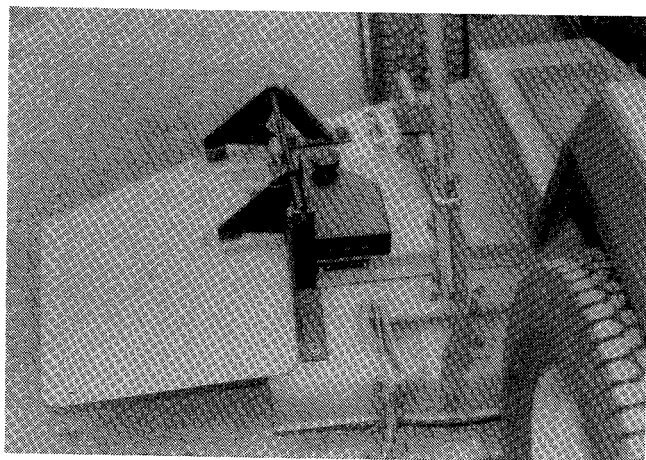
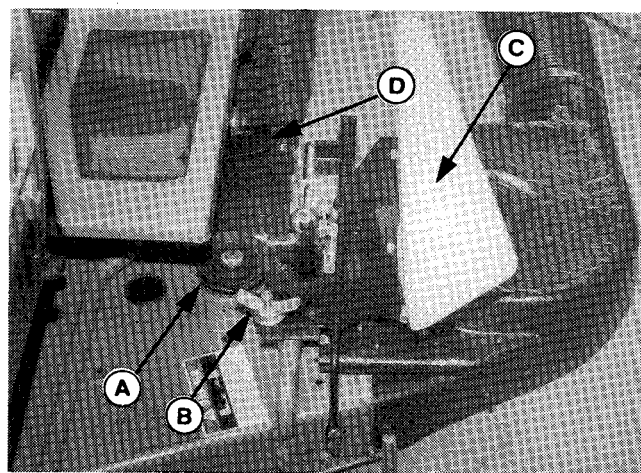

Figure 20.
Figure 21.
The deflector is spring loaded. When removing blower, hold deflector up. Then allow deflector to go down into normal operating position (figure 20).
Unhook the cart from the tractor by removing two pins and clips. To remove the blower, remove belt from pulley (A, figure 21), then close cover (D) and tighten knob. Loosen wing nut (B) and, while holding deflector (C) up, pull blower off mower. Then, allow deflector to go down into position shown in figure 20.
Raise the deflector to slide the blower into position. Tighten the wing nut (B, figure 21). Place the belt onto the pulley (A) and close the cover (D) and tighten knob. Connect cart and chute.